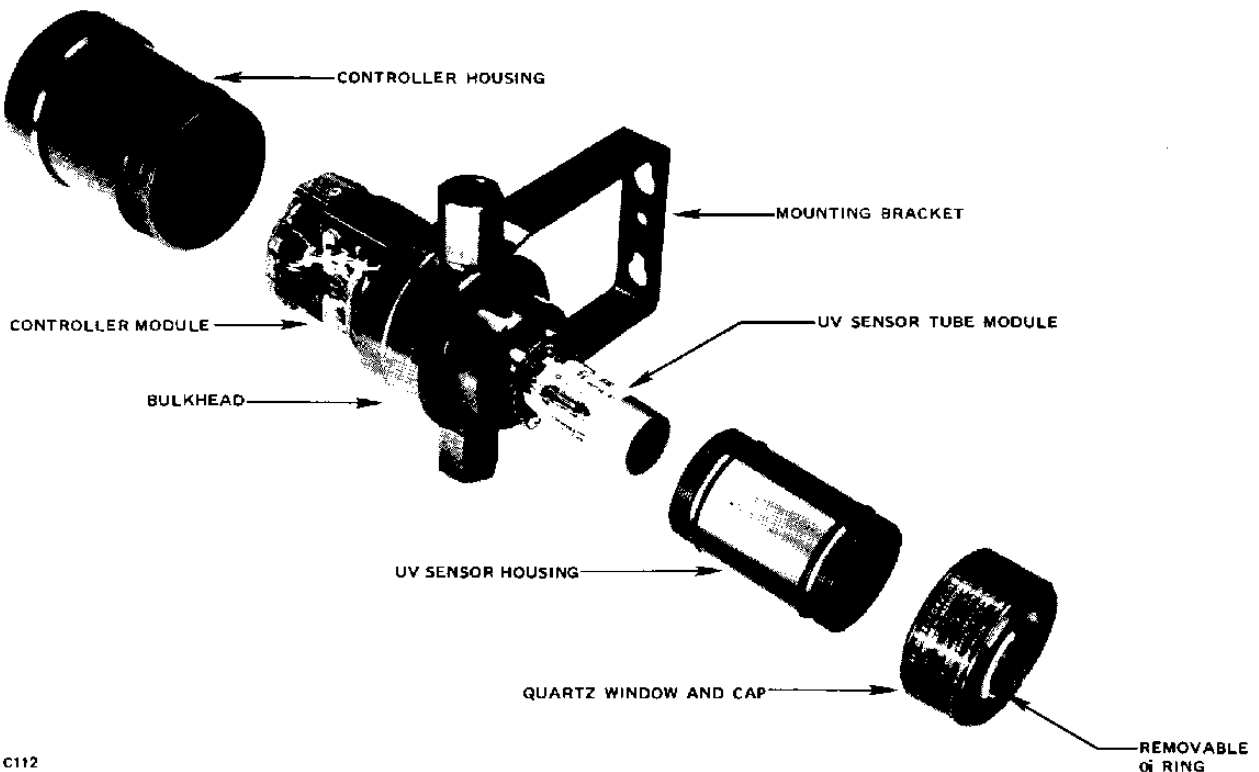

Figure 10—U7600 Detector Assembly.
2. Remove sensor tube housing (see Figure 10).
7. Remove controller housing (see Figure 10).